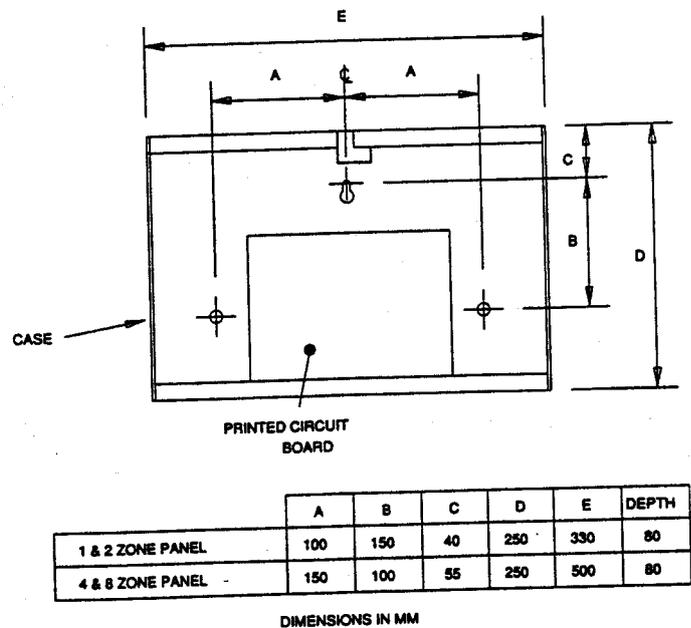

Figure 3 Case Fixing Details
- Hold the control panel on the wall in the desired mounting position and mark the positions of the fixing holes. See *figure 3* for case fixing details.